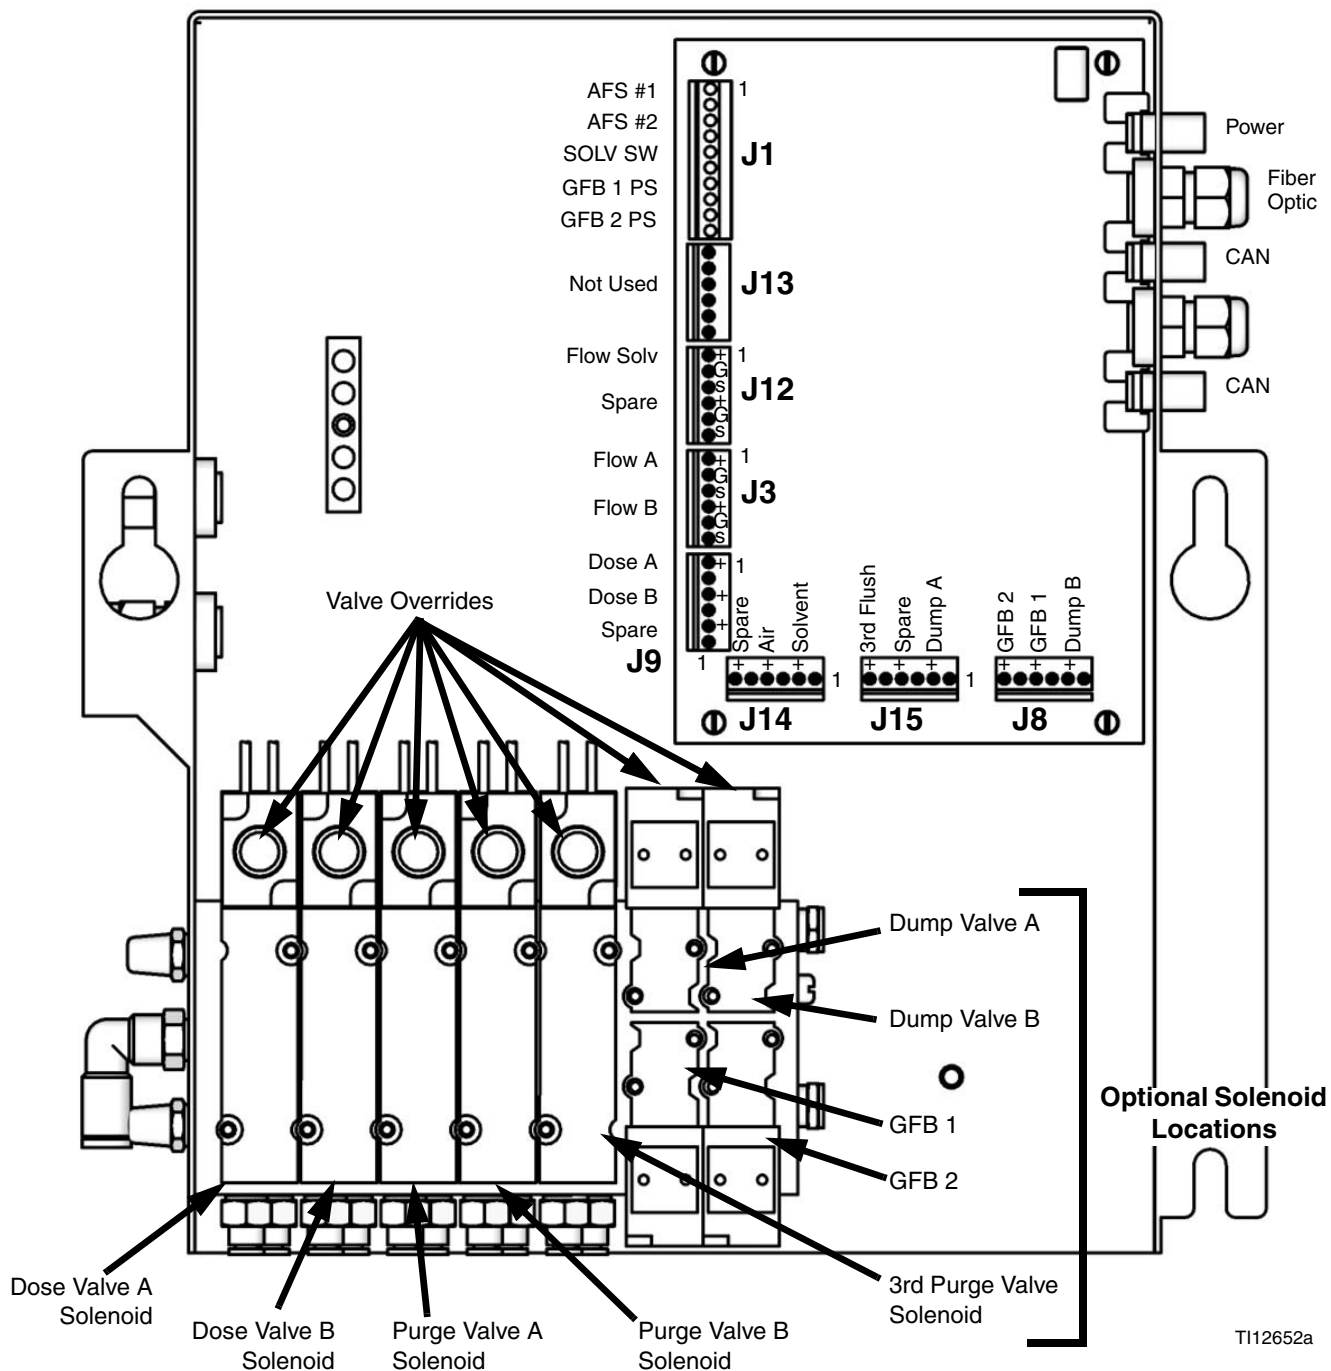

FIG. 65. Fluid Solenoids
2. With the gun triggered, push the manual override on the A and B dose valve solenoids to relieve pressure. See FIG. 65.
5. With the gun triggered, push the manual override on the A and B purge valve solenoids to relieve air and solvent pressure. See FIG. 65. Verify that solvent pressure is reduced to 0.
3. Press and hold the dump valve A solenoid override, FIG. 65.
5. Press and hold the dump valve B solenoid override, FIG. 65.
7. Press and hold the dump valve A solenoid override, FIG. 65.
9. Press and hold the dump valve B solenoid override, FIG. 65.
4. Remove the Fluid Station cover to access the solenoid valves. See FIG. 65.